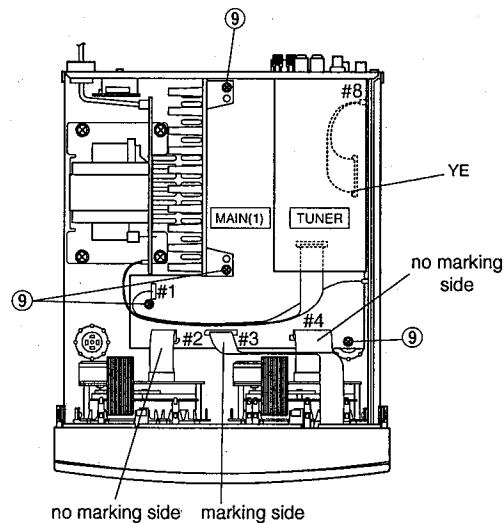

Fig. 5
- Disconnect the Flat Connecting Cables (#2 to 4, #8) and remove a connector (#1) in Fig. 5.
- Remove 4 screws (⑨) in Fig. 5.
- Reconnect the Flat Connecting Cables (#2 to 4, #8) and the Connector (#1) in Fig. 5.